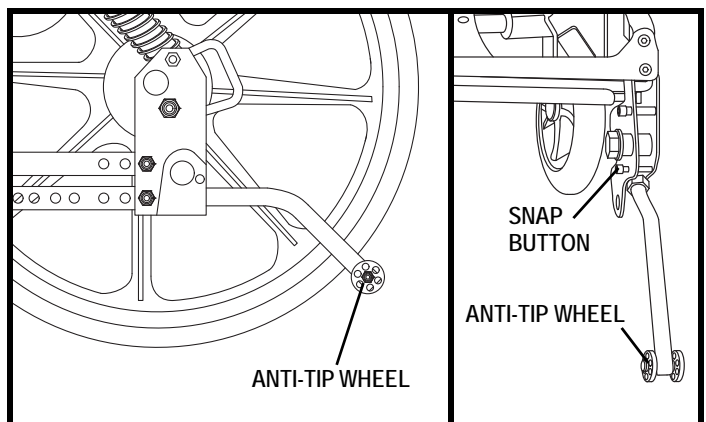

Figure 22. Kids ROCK 2 and ROCK 3 Anti-tip Wheels
9. Install the rear anti-tip wheels. **See figure 22.**
Anti-tip wheels are integral and important safety features of your wheelchair. **See figure 22.**